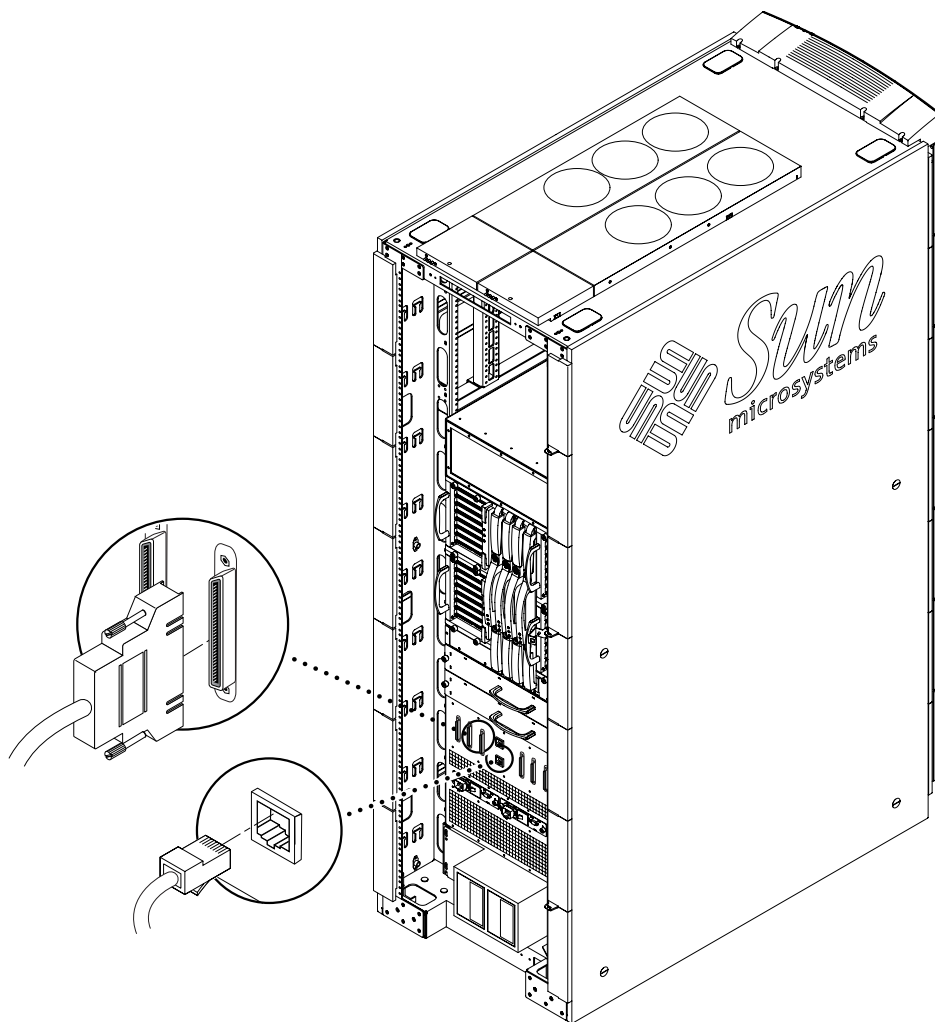

FIGURE 2-10 Primary TTYa Serial Port and Primary Ethernet Connections on the Patch Panel
1. **Connect one end of the serial cable (TTYa or Null modem) to the primary serial port on the patch panel (FIGURE 2-10).**
1. **Connect one end of the shielded Category-5 Ethernet cable to the primary RJ-45 Ethernet port on the patch panel (FIGURE 2-10).**